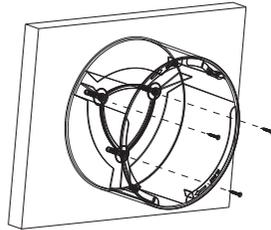

Figure.4
3. Align the product with the holes, and install dowel screws provided with the product (Fig. 4).